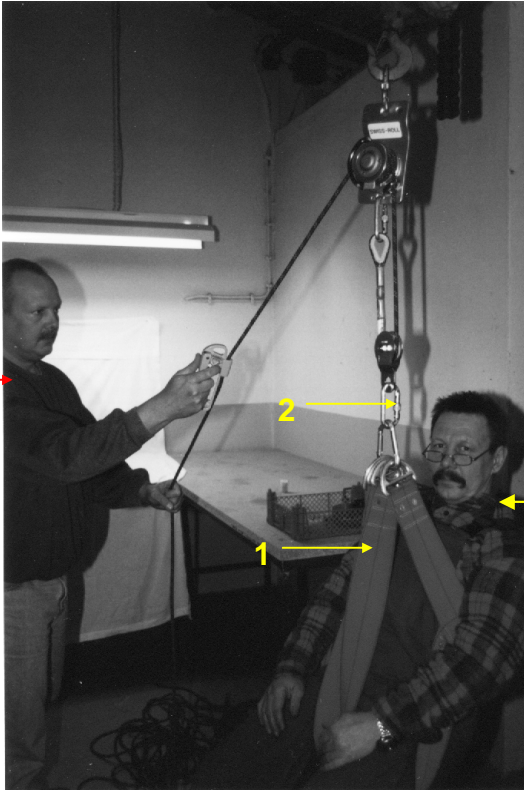

Abbildung 28
4.6.1. External raising and lowering (Abb. 28 und 29)
1 Person load [P] (3) (Abb. 28)
1 Securing person [S] (4) (Abb. 28)
5.1. For Rescue (Abb. 28)
5.1.1. [S] Put the person being rescued in the seat belt(1) (Abb. 28) and get the rescue seat strap rings ready
5.1.2. [S] Hang the seat strap rings on the load rope carabine(2) (Abb. 28).